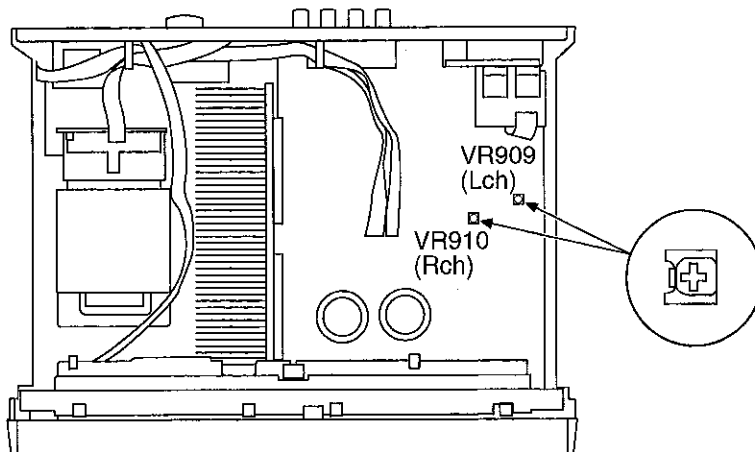

Fig.2
2. Before turning **ON** the set, adjust **VR909 (L ch)** and **VR910 (R ch)** to mechanical center position. (Shown in Fig.2)